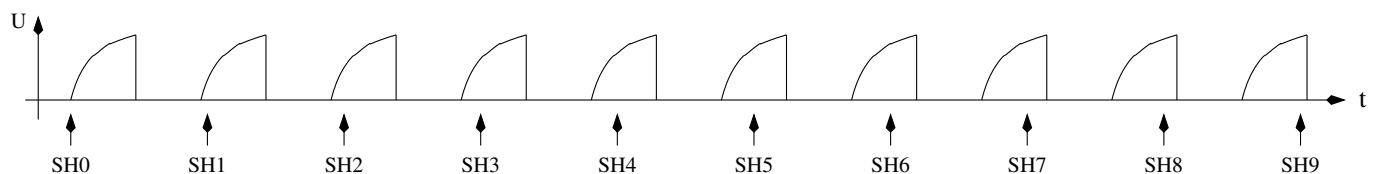

Figure 5.30. Scanning of a voltage curve with the sampling technique
The radio amateur Pieter-Tjerk (PA3FWM) has integrated the measurement capability for very small capacity values ($< 100\text{pF}$) with the sampling technique. The conversion period of the ADC is in fact too long for sampling a fast signal directly. But the voltage of the input signal is hold at a specified time of the conversion cycle, the Sample and Hold (SH) time. The ADC need 13 clock cycles for a total conversion and the ADC clock is build by dividing the processor clock by 128 or 64. The input voltage is fixed at exactly ADC clock number 1.5 for continuous cycles. If the input signal can be generated again and again, we can shift the sample time of the ADC from one to the next signal repetition, so that we get a sample sequence of the fast signal. A normal ADC cycle takes $13 \times 64 = 832$ clock cycles with a 8 MHz processor clock. If we repeat the input signal with a 831 clock cycle, a uninterrupted ADC (free run mode) would sample the signal one processor clock tick later for every following signal repetition. We must make sure with this method, that the first ADC sampling of the signal is done at the requested starting time. The time of the following ADC samples would be shifted by one processor clock tic later for every next signal repetition. If the signal can be repeated exactly, the combined signal of many periods is the same, which would be sampled and converted directly with a ADC running with the processor clock (8 MHz). Figure 5.30 shows the principle of sampling a ten times repeated signal to get 10 samples (SH0 - SH9). In reality the relative time shift of successive samples is much smaller than shown here.